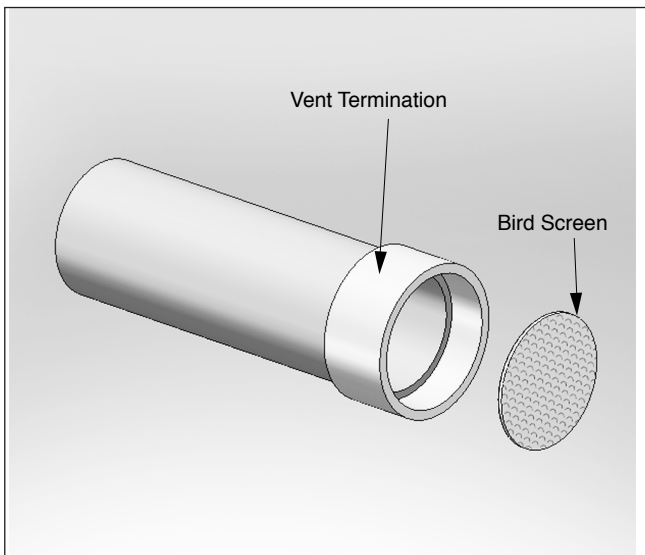
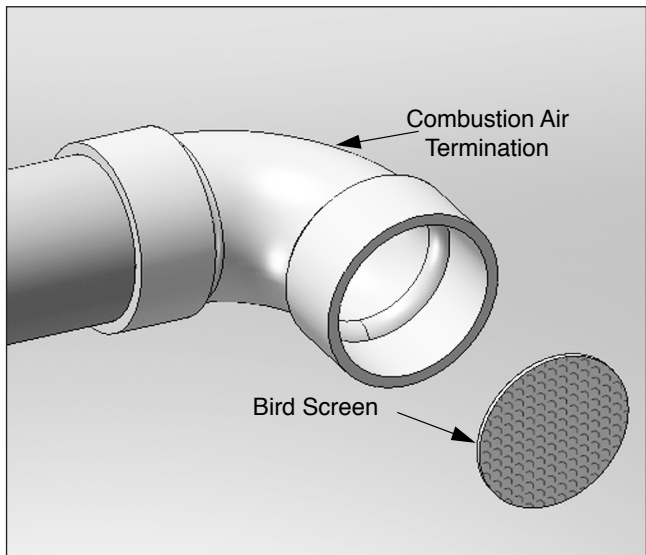

Fig. 9 - Sidewall Vent Bird Screen Installation
Fig. 10 - Sidewall Combustion Air Bird Screen Installation
1. The vent and combustion air terminations must include a factory supplied "bird screen" installed as shown in *Fig. 9 and Fig. 10 on page 18*.
1. The vent and combustion air terminations must include a factory supplied "bird screen" installed as shown in *Fig. 3 on page 14* & *Fig. 10 on page 18*.